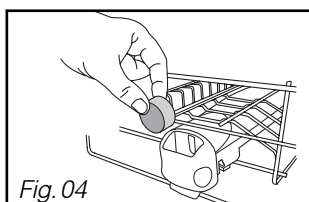
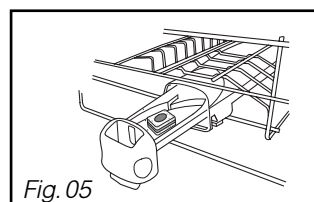

Fig. 04
Fig. 05
Place tablets that are not multi-purpose in the external compartment (Fig 04) or, for optimum operation, pull out the distributor's drawer and lay the tablet there. (Fig 05)
• **Place the tablet** in the external compartment (Fig 04 on previous page) or or, for optimum operation, pull out the distributor's drawer and lay the tablet there. (Fig 05 on previous page).